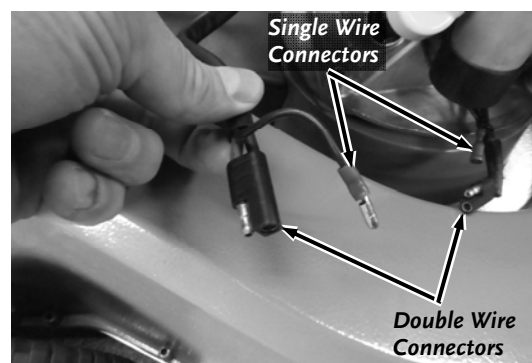

Figure 12
1. Plug the Single Wire Connectors from the Engine and Battery together (**Figure 12**).